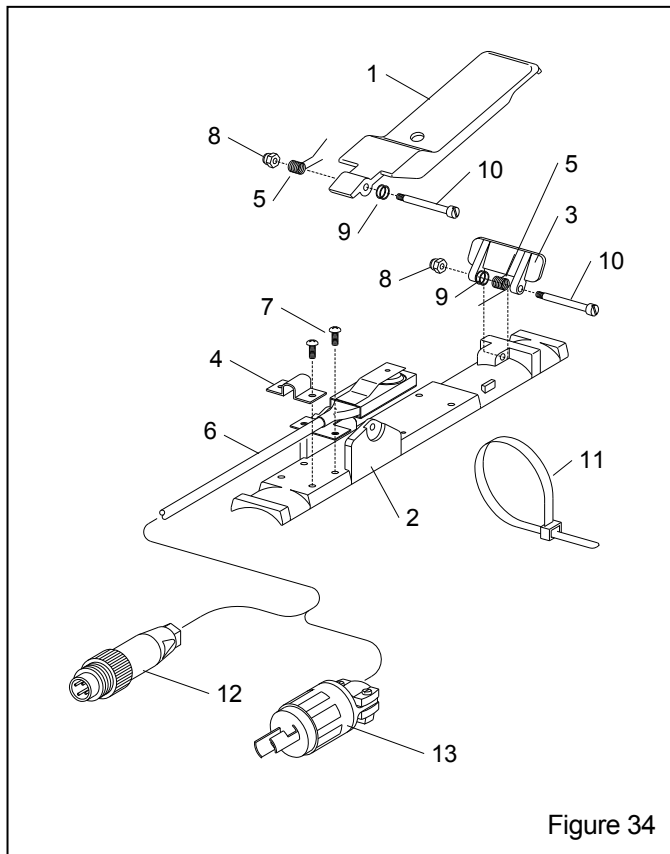

Figure 34
8.12 RLX Electric Control Handle, Figure 34